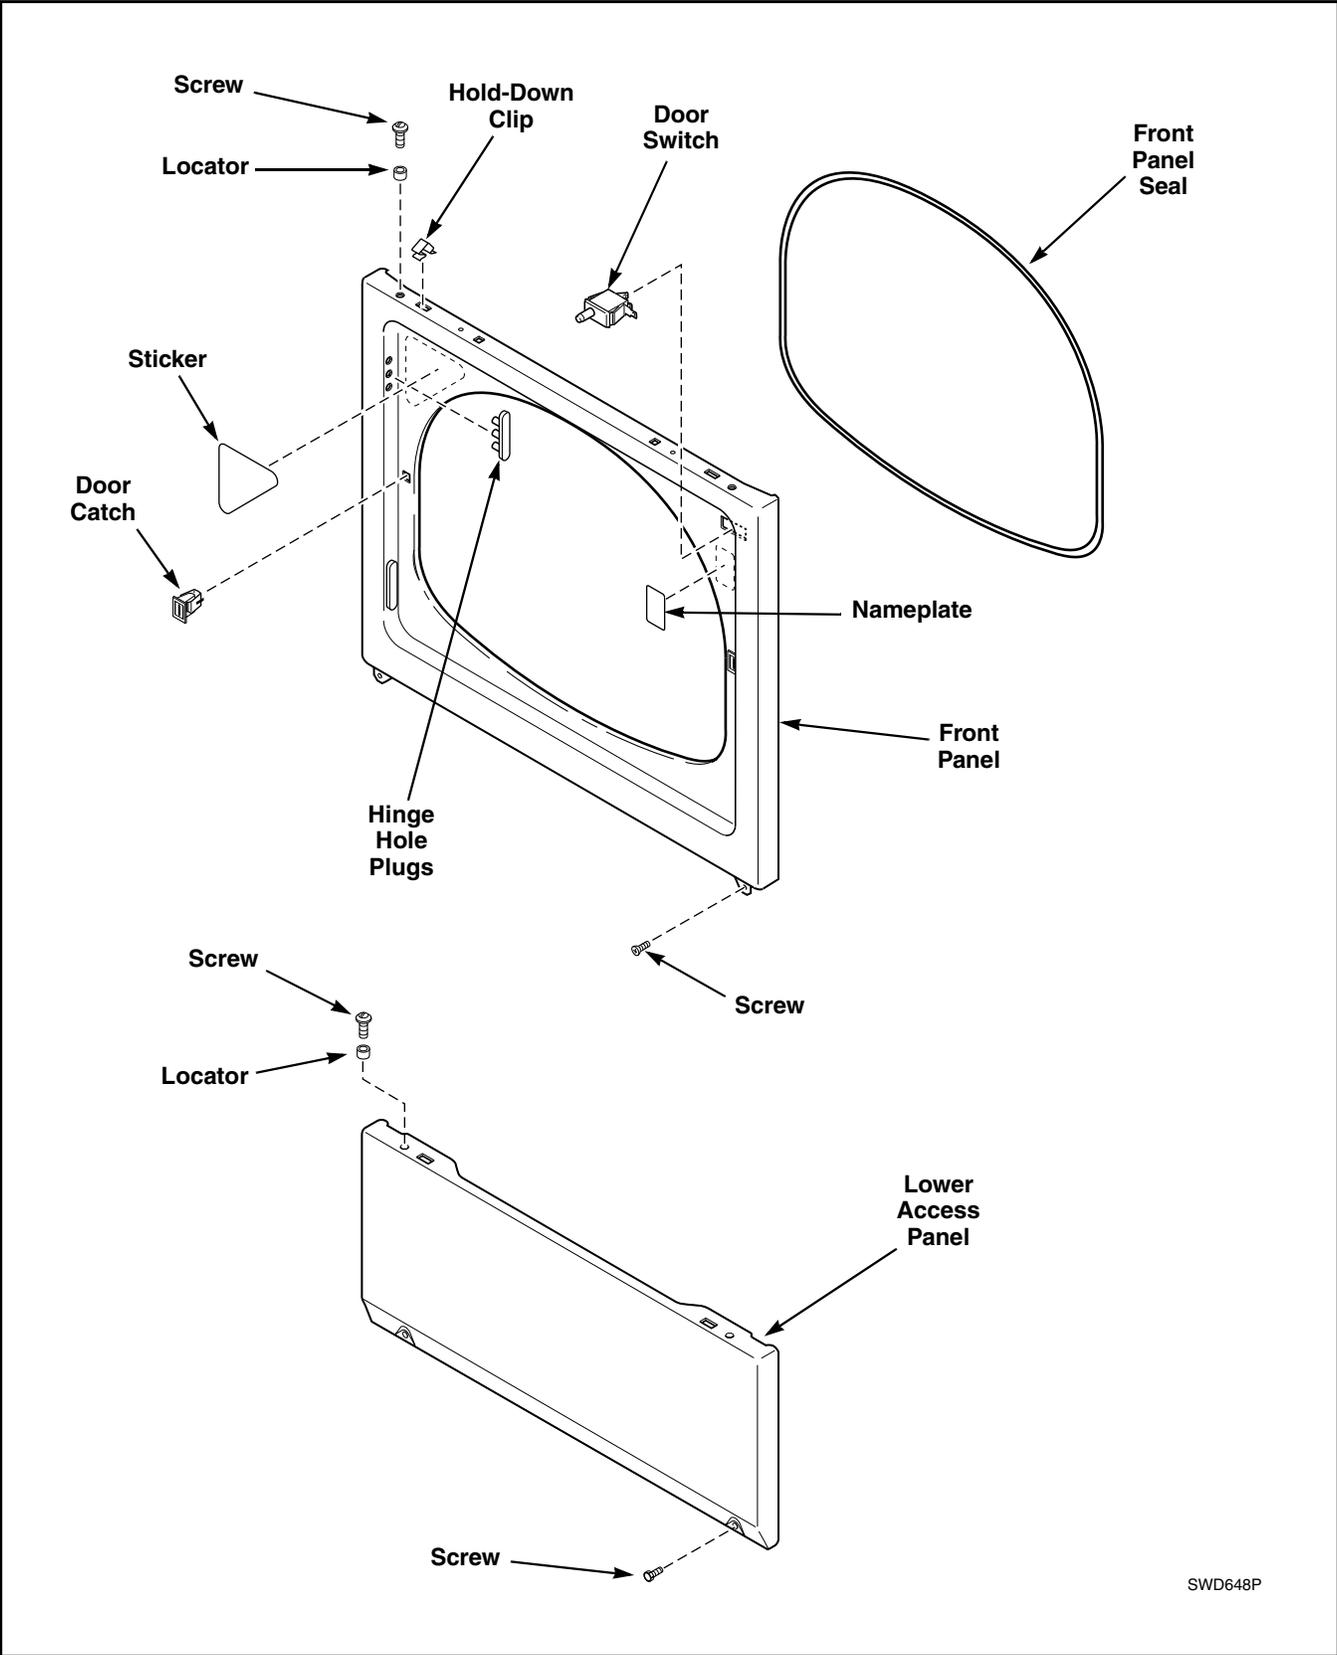

Figure 16
- b. Gently lower the access panel to disengage locators from bottom edge of front panel. Refer to *Figure 16*.
- e. Remove front panel seal from flange around inside of door opening. Refer to *Figure 16*.
- b. Gently lower access panel to disengage panel locators from bottom edge of front panel. Refer to *Figure 16*.
- e. Compress hold-down clips and remove from top of front panel. Refer to *Figure 16*.
- f. Remove four screws holding four locators to access panel or front panel. Refer to *Figure 16*.
- Gently lower access panel to disengage locators from bottom edge of front panel. Refer to *Figure 16*.